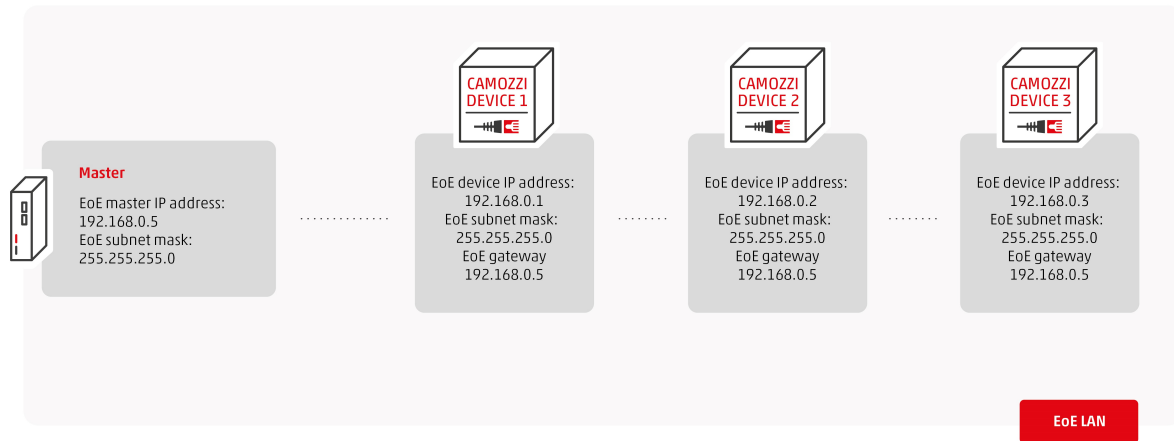

Figure 2.4: Internal Communication via EoE
- **Internal Communication via EoE:** in this case the master manages both EtherCAT and Ethernet communication, figure 2.4.